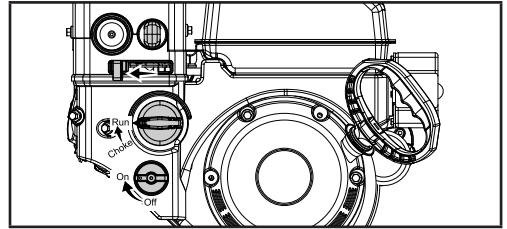

Figure 11B
- b. To start a warm engine, leave the choke lever to the run position (Fig. 11B).
4. Move the throttle lever to full speed to start the engine (Fig. 11B).
5. Use primer control depending on unit's temperature (Fig. 11B):
8. When the engine starts, move the choke to run position (Fig. 11B).